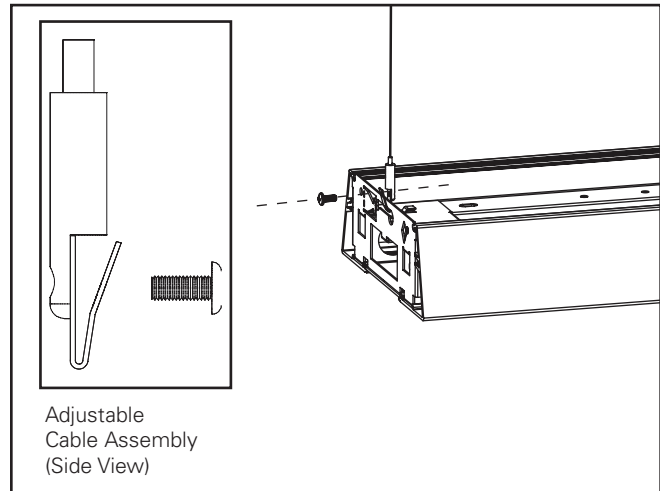

Figure 3.
1. Slide clip into slot of end bracket and secure adjuster to clip. Tighten screw leaving enough gap in the clip to slide back and forth. Insert aircraft cable into adjuster to desired length. Press down on adjuster to release cable. Repeat on opposite end. (Figure 3.)